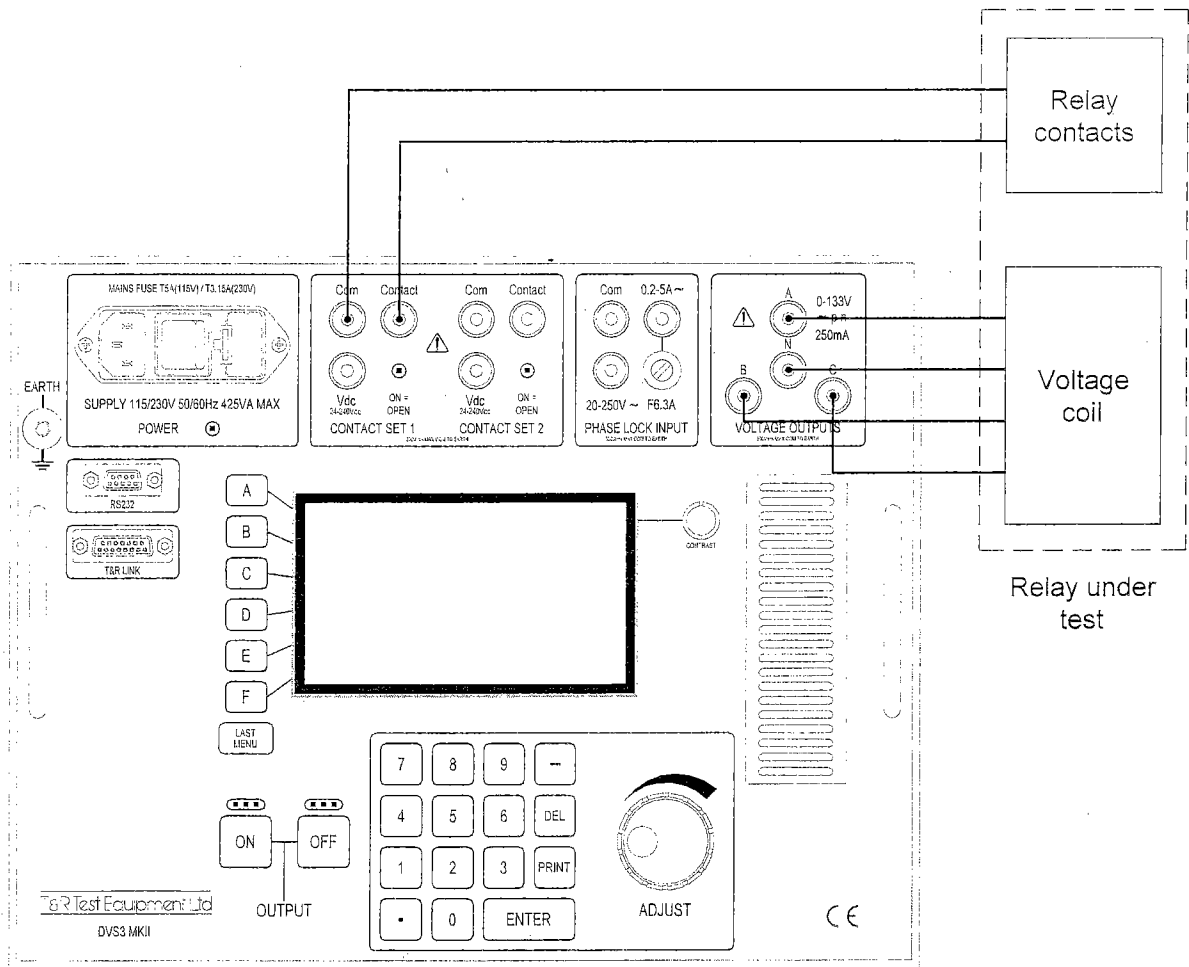

Figure 3.3 Connections for under and over voltage relays
- Connect an auxiliary supply to the relay if required (not shown in figure 3.3).